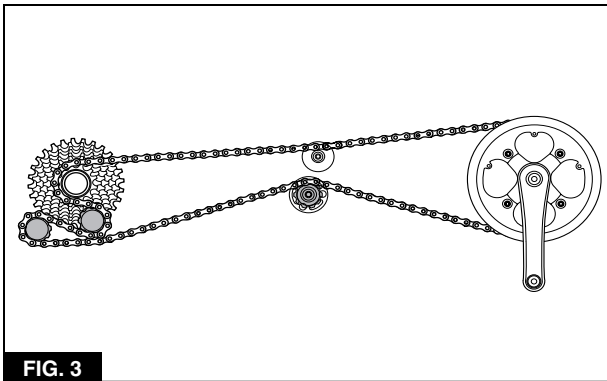

FIG. 3
b. The chain is too long if it contacts itself or any part of the derailleur once the chain leaves the tension pulley (**Figure 3**).